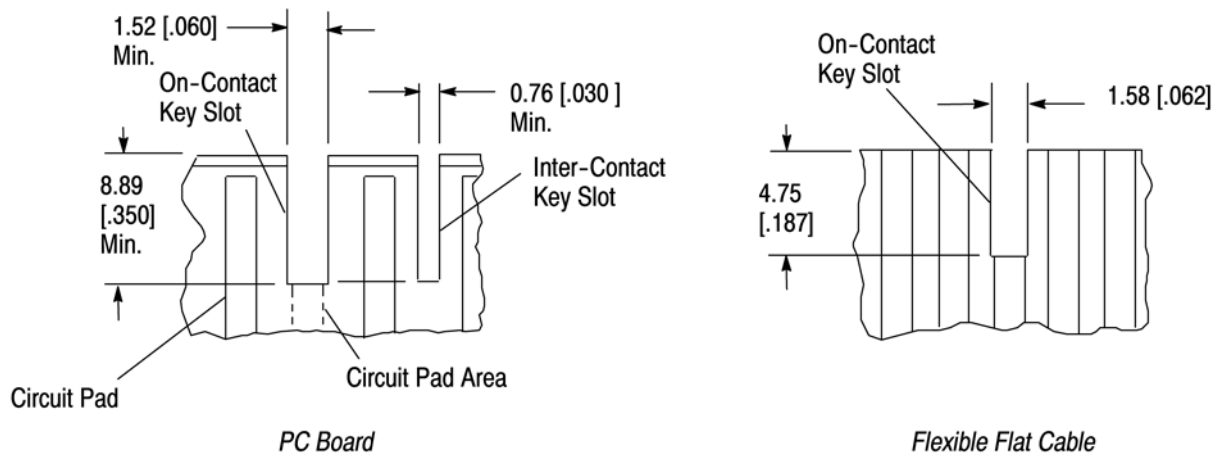

Figure 18
*A slot must be cut in the pc board to accept the inter-contact and on-contact keying plugs. A slot must also be cut in the flat cable when an on-contact keying plug is used. See Figure 18.*